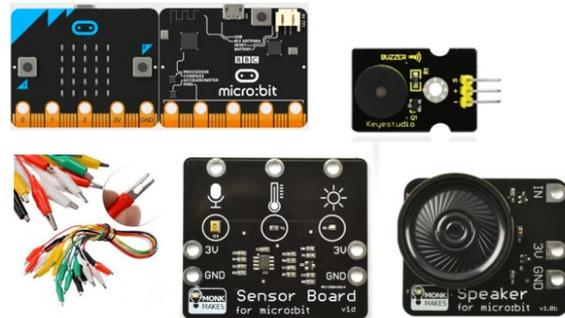

Figure 4: L–R: micro:bit, buzzer, alligator clips, MonkMakes Sensor Board, speaker
**Materials list (Figure 4):**